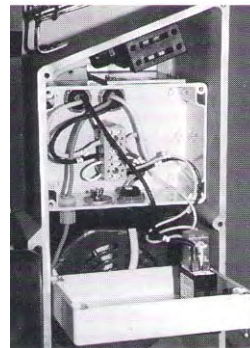

Figure 9. Electrical Box
- a. **Remove the front cover protecting electrical box and motor. Remove electrical box cover with on-off switch. Refer to Figure 9.**